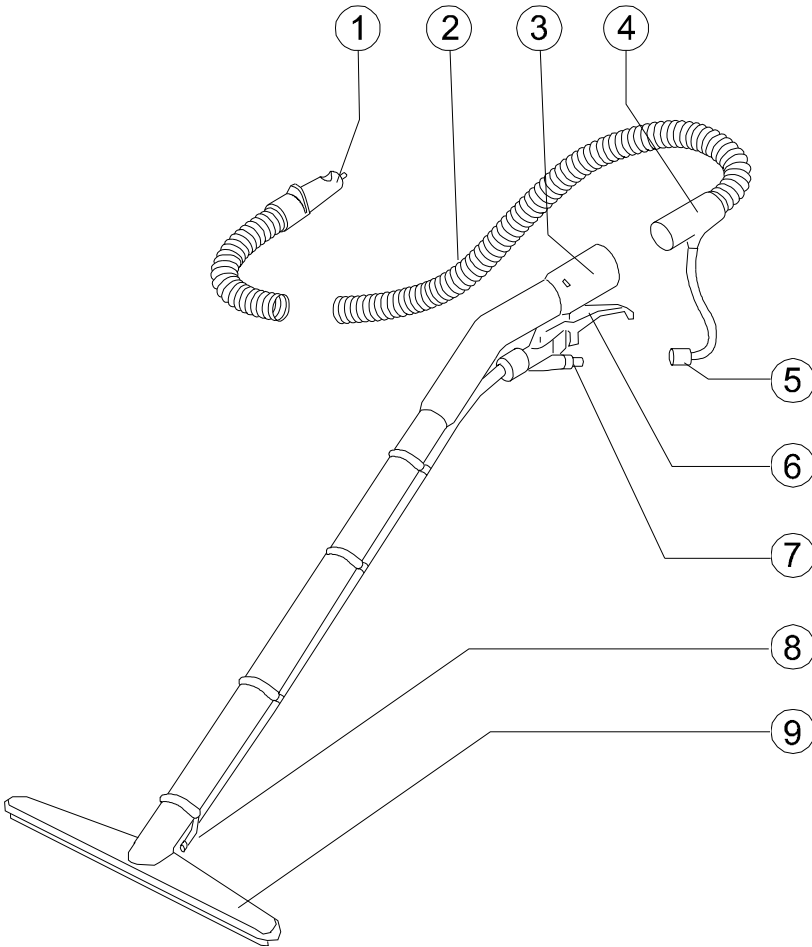

Figure 4
- holding the attachment, spray the detergent solution by means of the lever 6 in figure 4 and guide the bristles over the floor (fig. 4, N° 9) to remove the dirt;
- switch the suction unit on (key 2, fig. 3) and suck up the dirty water, running the squeegee (fig. 4, N° 9) over the floor using the rubber part;